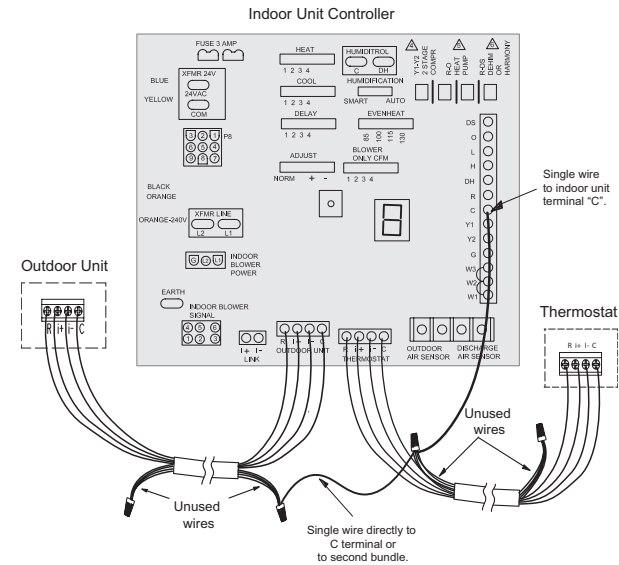

Figure 15. Minimizing Electrical Noise
**NOTE:** When using multi-conductor unshielded thermostat cable, refer to “Figure 15. Minimizing Electrical Noise” on page 14.